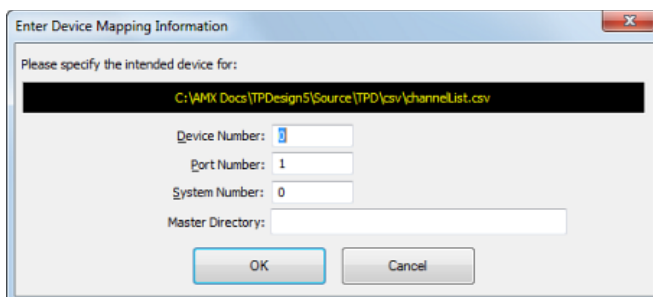

FIG. 138 NetLinx Studio 4 - Enter Device Mapping Information dialog
5. In the *Open* dialog, locate and select the "channelList.csv" file and click **Open** to access the *Enter Device Mapping Information* dialog (FIG. 138).